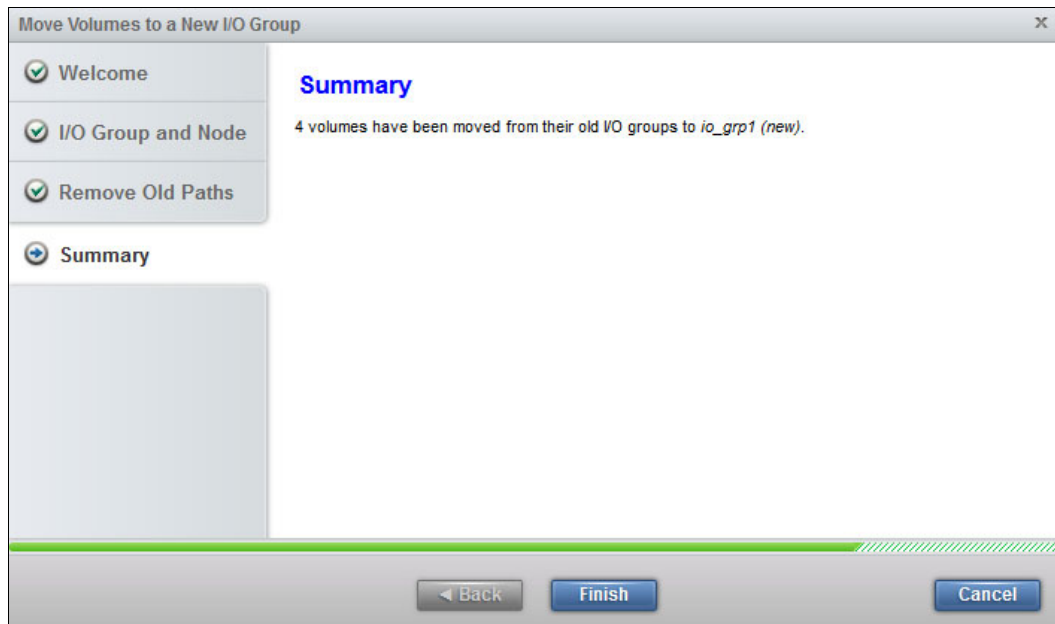

Figure 5-74 Finish Move Volumes to a new I/O Group wizard
- Review the summary and click **Finish** (Figure 5-74).